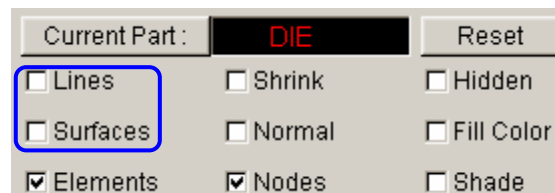

Figure 1.32 Display options
5. Toggle off the checkbox of **Lines** and **Surfaces** in **Display Options** located at the lower right side of screen. See Figure 1.32.